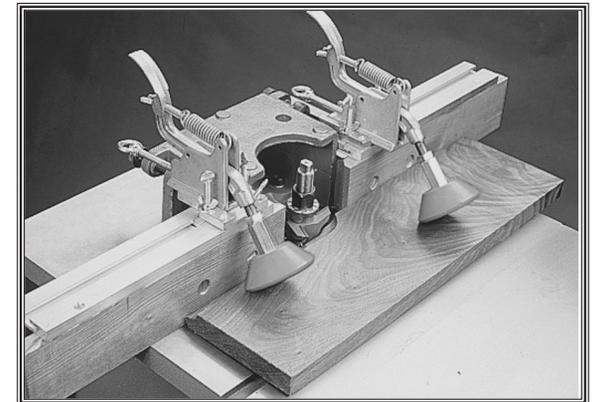

Figure 1. Typical Board Buddy application.
BOARD BUDDIES® are made from die-cast aluminum and feature non-marring green neoprene rubber wheels. Because the wheels turn in both directions, they function as hold-down rather than anti-kickback devices. You can mount these to fences that are 3" to 3½" high x 1" or wider (see **Figure 1**). Mounting typically requires minor modifications to the shaper fence.
To install your BOARD BUDDIES® see **Figure 1 and 2**, and do these steps:
3. Position the mounting bracket on the auxiliary fence so it does not protrude into the path of the stock. See **Figures 1 and 2**.
4. Position the rollers as close as possible to the shaper spindle, but clear from the blade or cutter used. See **Figure 1**.
BOARD BUDDIES® assist stock feeding by maintaining a consistent pressure against the machine table and the fence. See **Figures 1 and 3**.